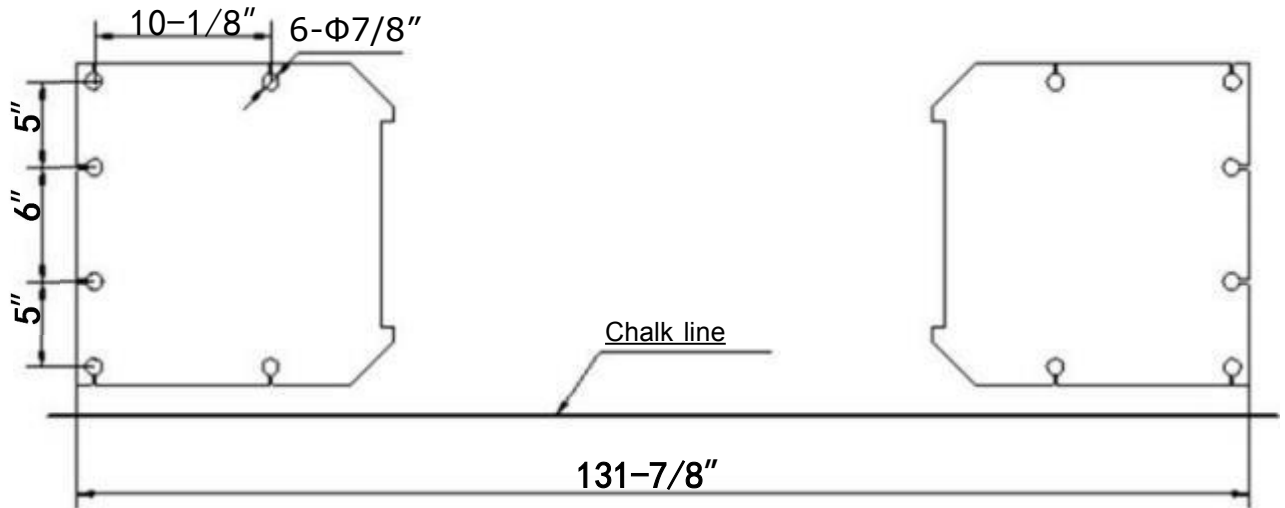

Fig. 8
B. Use a carpenter's chalk line to establish installation layout of base-plate (See Fig. 8).